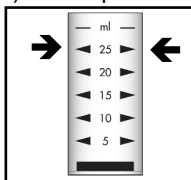

Figure 1
1. Fill the sample cup to the 25 mL mark with the sample to be tested (fig 1).
1. Fill the sample cup to the 25 mL mark with the sample to be tested (fig. 1).